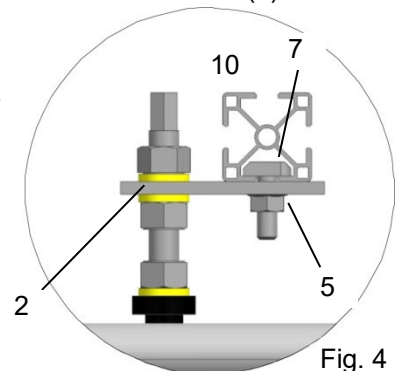

Fig. 4
- Install the support profile (10) with the carriage bolt (7) and self fixing nut (5) on the assembly angle (Fig. 4).